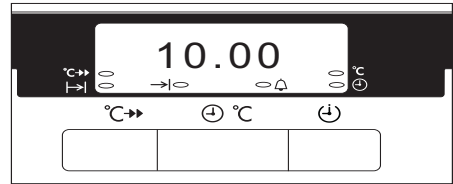

Fig.9
- i) Ensure the electricity supply is switched ON and that the correct time of day is displayed, e.g. 10.00am as Fig. 9.